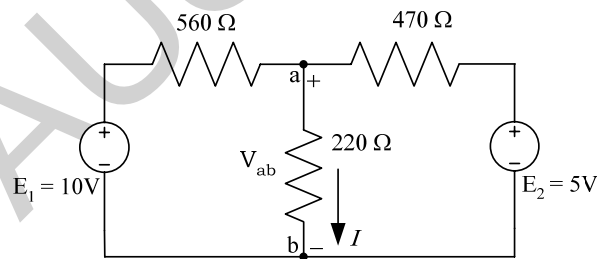

Figure 6.1: Circuit 01 (E_1 and E_2 activated)
1. Measure the values of the resistances. Make the necessary circuit connection of circuit 01 shown in Figure 6.1.
1. Verify Superposition theorem for the circuit shown in Figure 6.1 both experimentally and theoretically. *[Use measured value of resistance for calculations.]*